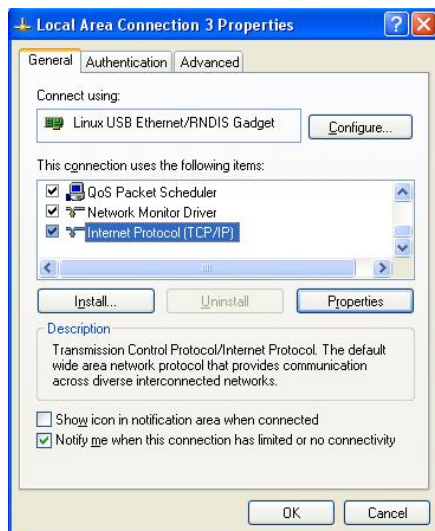

**FIG. 26** Completing the Found New Hardware Wizard
- Once the system finds the driver, it displays its choice (FIG. 26). Click **Finish** to complete the driver installation.